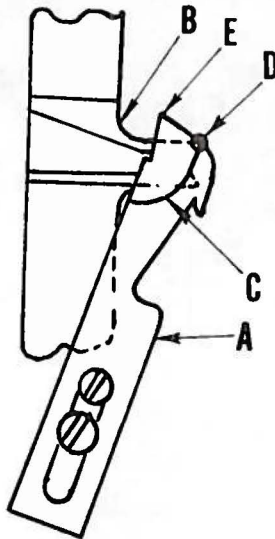
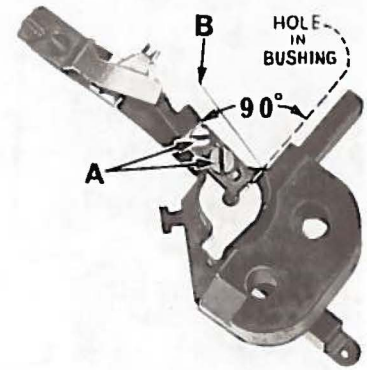
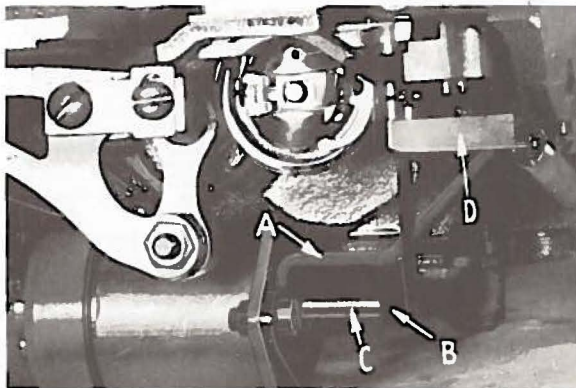
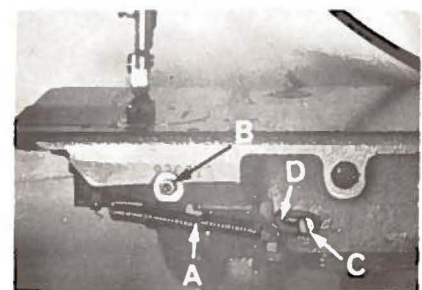

Fig. 33
Fig. 34
Fig. 35
Fig. 36
2. Position upper knife (D) parallel with the left side of the arm of the positioning finger. Check to see that the lower knife is parallel with the upper knife. If this is not so, loosen the finger set screw (E) and turn the eccentric bushing (F) until the knives are parallel. A good starting point would be to have the pin hole in the eccentric bushing (F) located approximately 90° to the right side of the arm of the positioning finger (Fig. 34).
The lower knife (A, Fig. 33) in its extreme left position should not extend beyond the left side of the arm of the positioning finger (B). As the lower knife moves to the right, the run out of the cutting edge (C) must coincide at a point of the positioning finger as indicated at point (D). To make these adjustments loosen screws (A, Fig. 34) and position knife.
4. Locate the cutting solenoid bracket (A, Fig. 35) as far forward as possible and parallel with the line of feed. With the cutting solenoid lever (B) contacting the cutting solenoid plunger (C), adjust the pivot release lever (D), so that there is a 1/32 inch clearance to be maintained when knife return spring (A, Fig. 36) is in position.
5. Adjust the lower knife stop screw (B, Fig. 36) so when the lower knife is in its extreme right hand position, the left corner (E, Fig. 33) is in line with the left side of the needle slot in the bobbin case holder.
6. Be sure the spring retainer wire (B, Fig. 34) contacts the bobbin case holder when the lower knife is in its extreme right hand position. If the spring wire does not make contact, bend retainer wire to suit.
7. Knife return spring (A, Fig. 36) to have proper tension to cut threads. To adjust tension of knife return spring loosen screw (C) and move tension spring bracket (D) to the right to increase tension or to the left to decrease the tension.